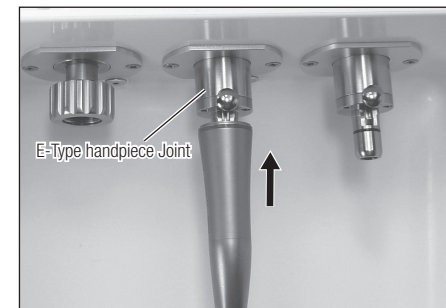

Fig. 16
- 2) Open the iCare door and attach the handpiece to the E-Type handpiece joint until it locks (Fig. 16).